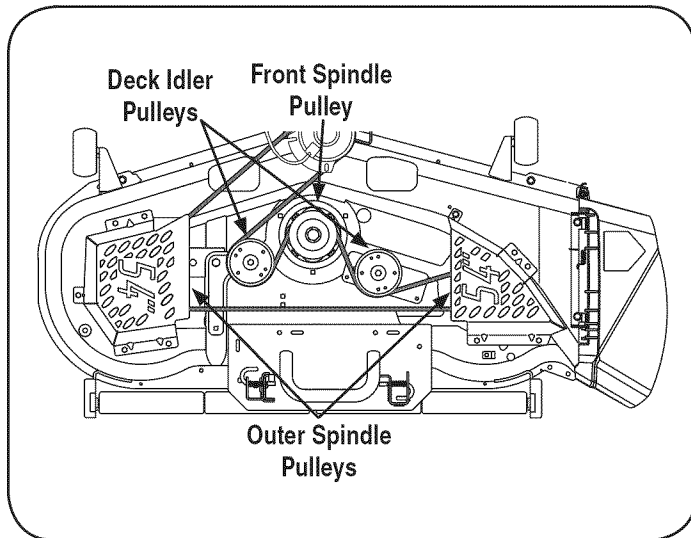

Figure 16
5. To place the new belt, begin by routing the belt around the two outer spindle pulleys, then around the front spindle pulley as shown in Figure 16.
6. Route the belt around the two deck idler pulleys as shown in Figure 16.